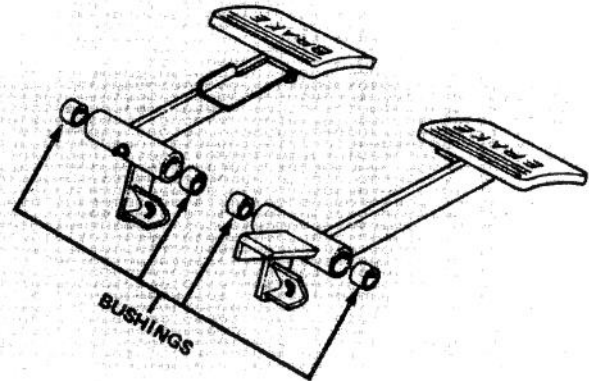

Figure 32
4. Using pin punch and hammer, drive both bushings out of brake pivot (Fig. 32). Clean inside of brake pivot to remove dirt and foreign matter.